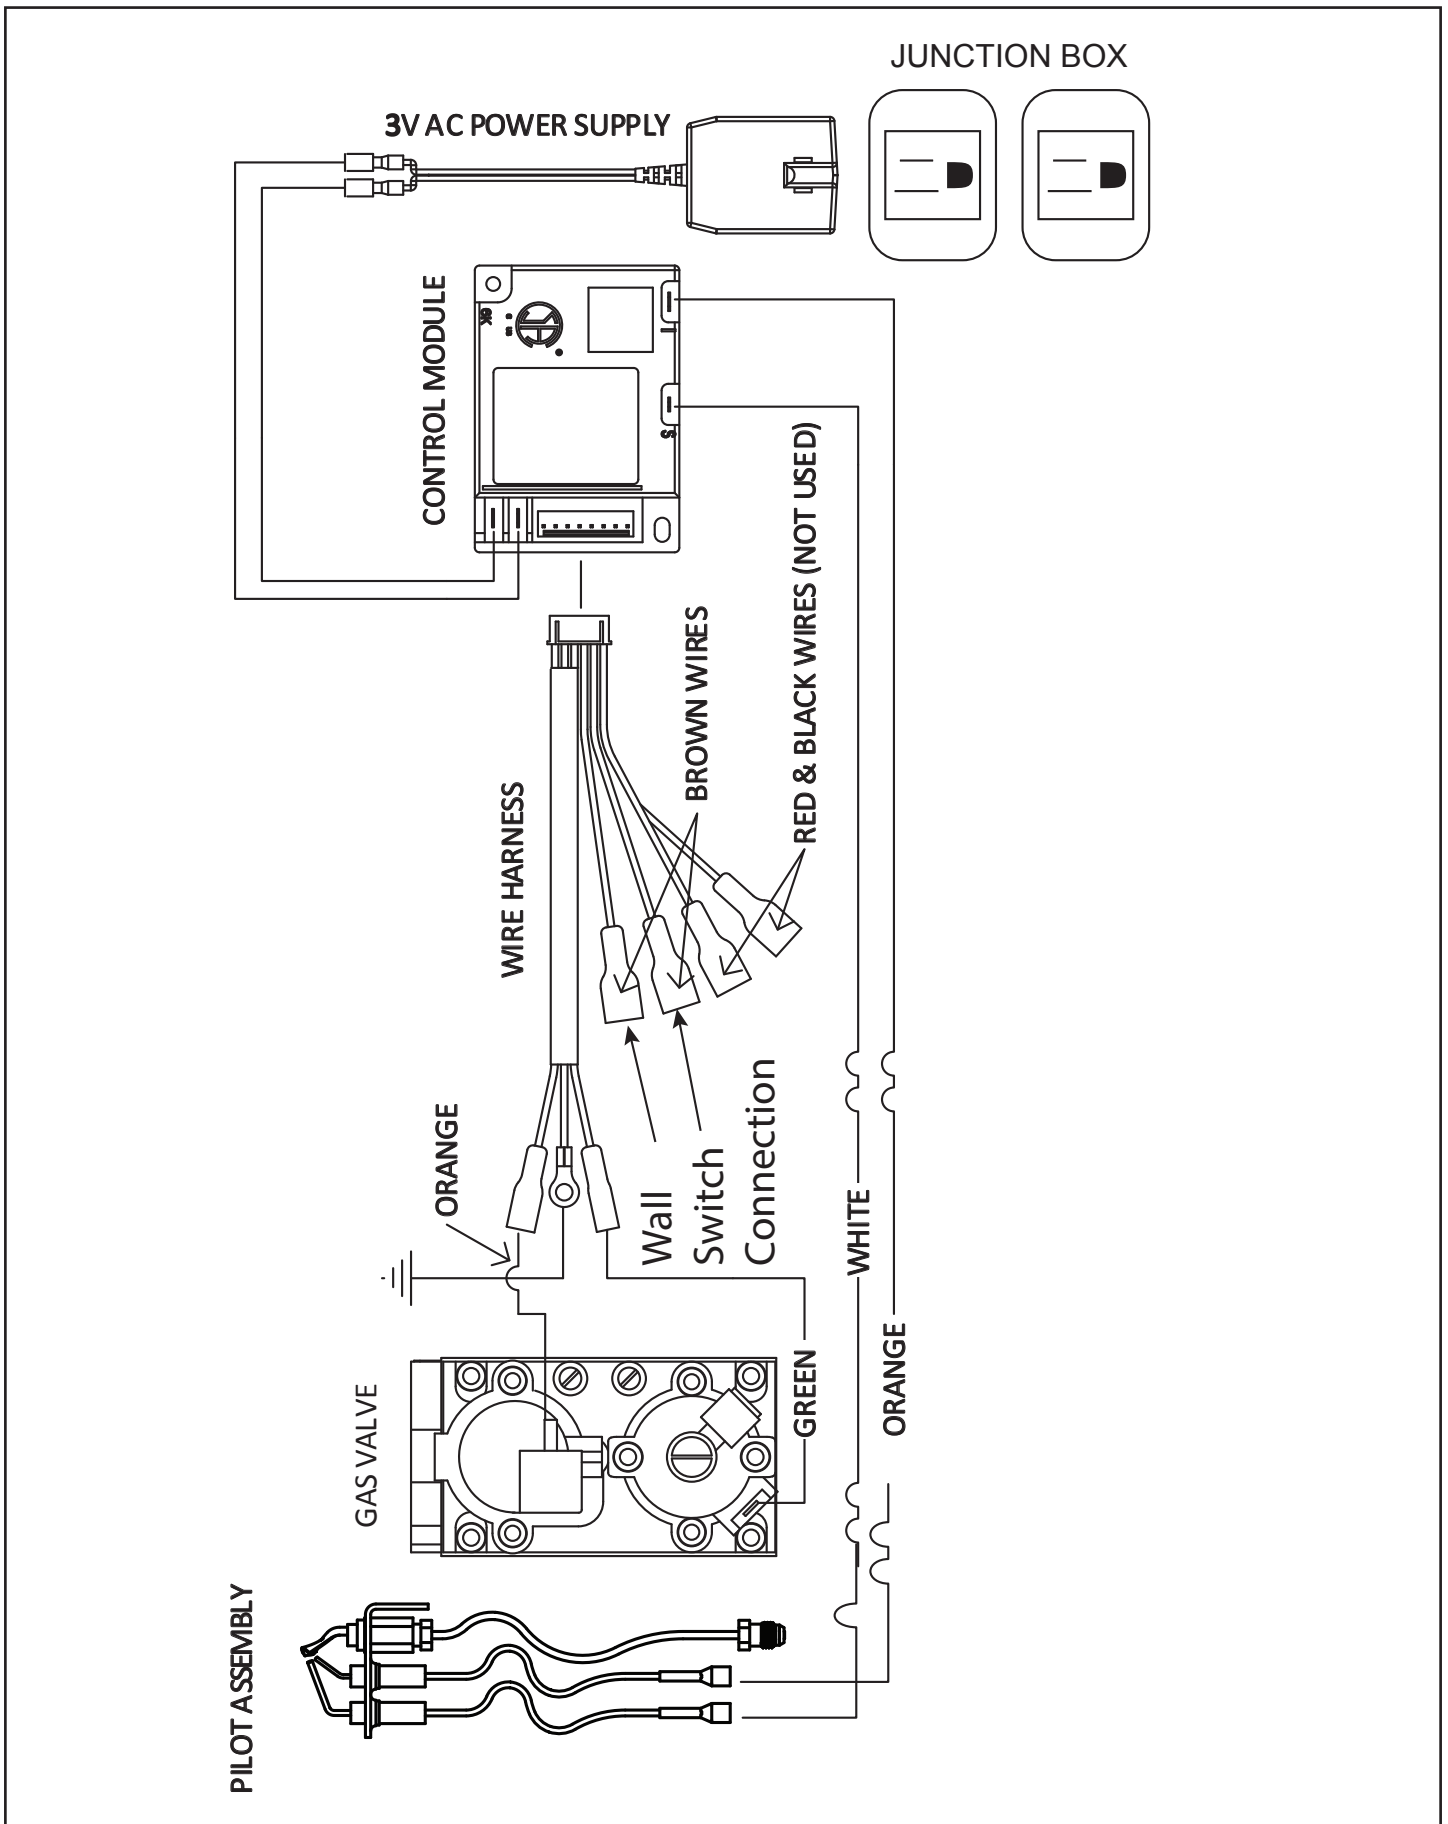

Figure 5.2. Wiring diagram
- The rocker switch wire (black/white) must be plugged into the two brown wires on the control wiring harness. These wires can be run on the left or right side of the unit through the electrical hole. It is recommended to run it opposite of the junction box wiring. There is no incorrect connection for these two wires. Shown in wiring diagram (Figure 5.2.) These wires are located inside the engine assembly and requires the top cover to be removed. See section 6A for more information regarding valve access.